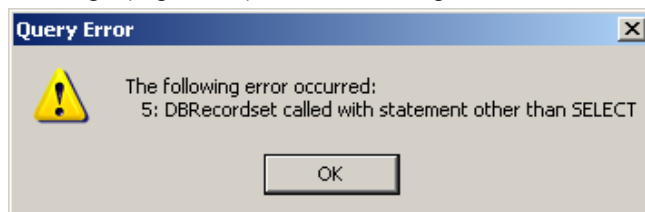

Figure 65: Example query error message when not logged into the software as an Omron Microscan administrator.
- Make sure you are logged into the software using an Omron Microscan administrator user name and password. Users not logged on as an administrator will receive the following Query Error message (Figure 65) when executing the command in the “Query” field.